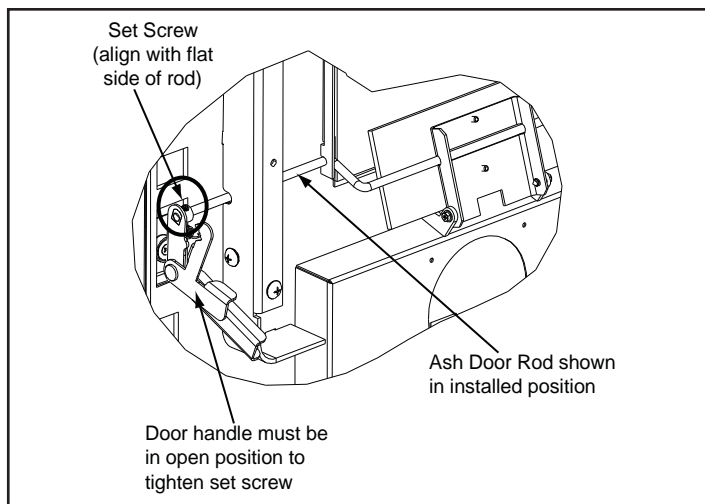

Figure 17.3
5. Re-install handle using a 3/32 Allen wrench to tighten the set screw in the door handle. The set screw needs to be snug. **Figure 17.3.**